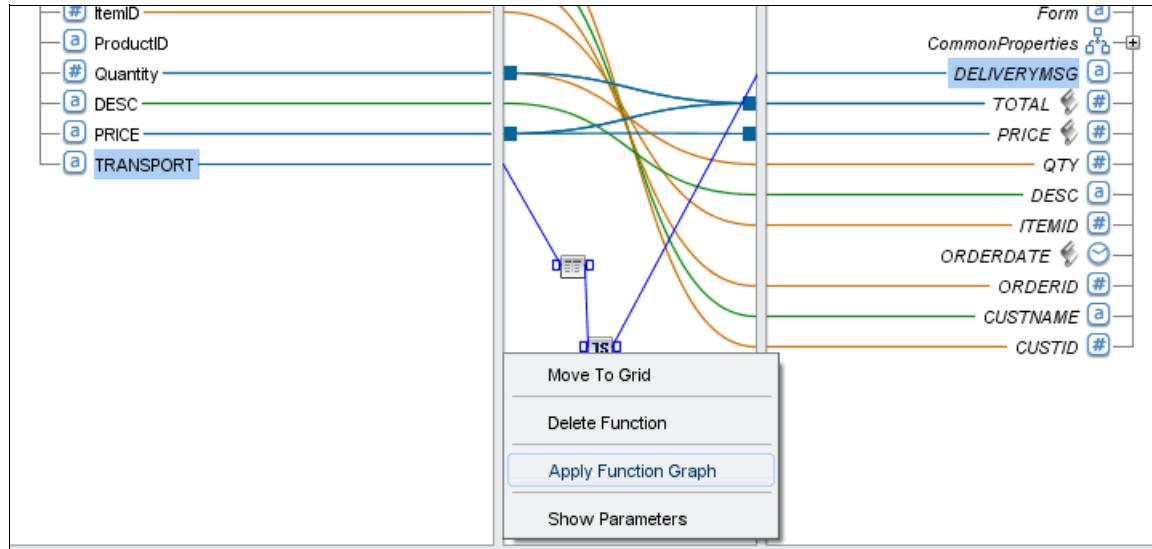

Figure 12-76 Calculating delivery date message
17. Right-click the **custom function**, and select **Apply Function Graph**, as shown in Figure 12-76.